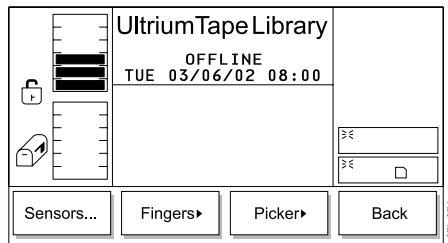

Figure 316. Diags Submenu
- Press the button below the **Diags** softkey. The Diags Submenu displays (see Figure 316).